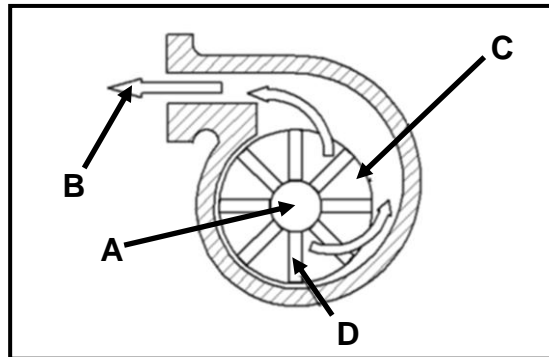

FIGURE 6.4
- 6.4 The performance of smaller engines can be improved by using superchargers, as shown in FIGURE 6.4 below. Answer the questions that follow.
- 6.4.1 Identify the type of supercharger shown in FIGURE 6.4. (1)